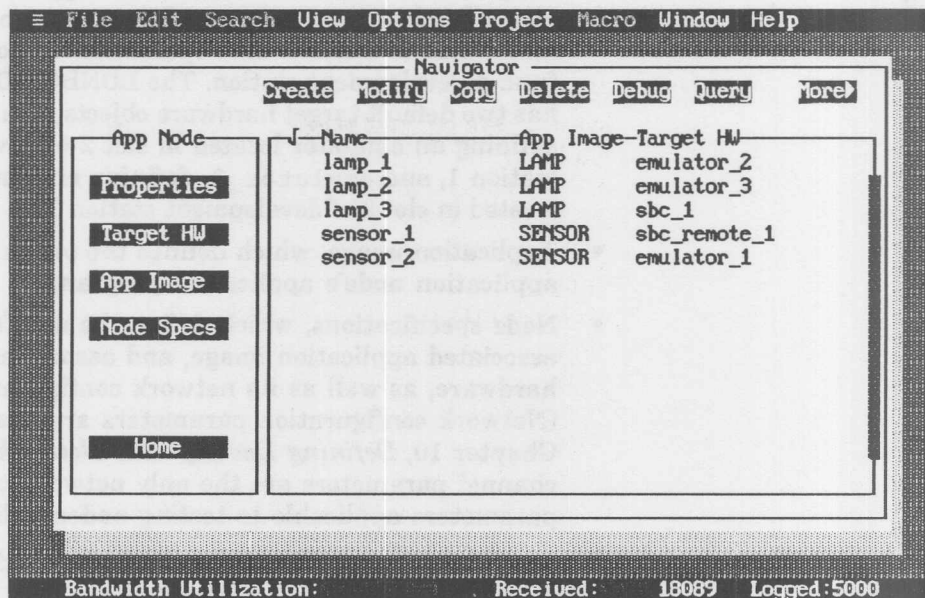

Figure 6-1. Application Node Selector Window
- 2 Select the App Node button to list the application node object type selectors—Properties, Target HW, App Image, and Node Specs (see figure 6-1).